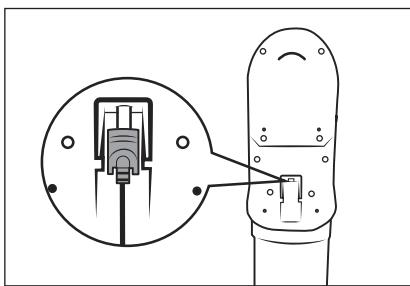

Fig. 8
- Recharge the battery ② as soon as the battery indicator ⑧ shows a low remaining charge of the battery ② .
- The appliance switches off shortly after an empty battery ②  is displayed.
- The vacuum cleaner can also be charged directly via the mains adapter ⑩. To do this, remove the barrel plug ⑪ from the wall bracket ⑯ by turning it slightly and insert it into the charging socket ③ on the appliance (see Fig. 8).